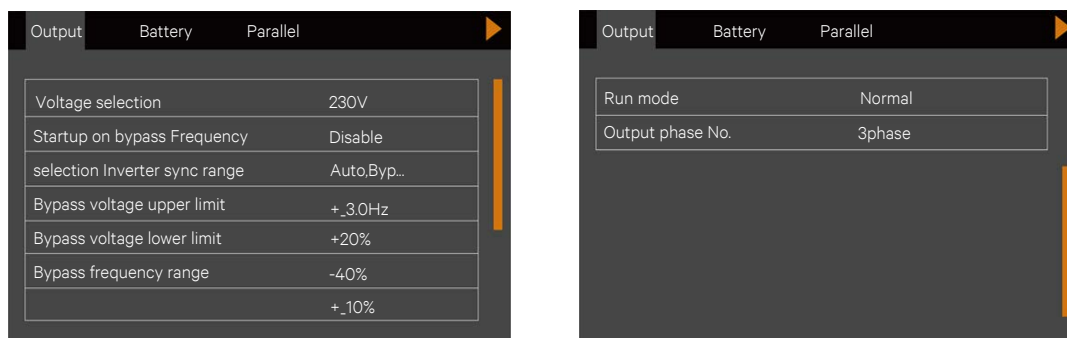

Figure 2-34 Output interface
b) Press the or key to select and set corresponding parameters (taking 'Output' as an example) as shown in Figure 2-34.